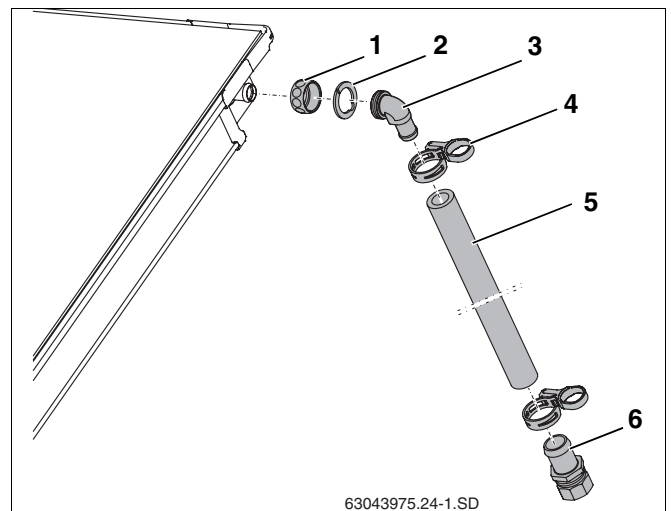

Fig. 35 Fitting flow line
- ▶ Push nut (Fig. 35, **Item 1**) over the collector connections.
- ▶ Place the clamping disc (Fig. 35, **Item 2**) behind the head on the collector connection and press together.
- ▶ Press angled nozzle with O-ring (Fig. 35, **Item 3**) onto connection, align and bolt together with nut.
- ▶ Push long solar hose (1000 mm, Fig. 35, **Pos. 5**) onto the angled nozzle and fix in place using hose clip (Fig. 35, **Item 4**).
- ▶ Insert hose nozzle with compression fitting (Fig. 35, **Item 6**) into the solar hose as far as it will go, and fix in place with hose clip.
- ▶ Connect header pipe to the R $\frac{3}{4}$ hose nozzle with compression fitting (22 mm) (Fig. 35, **Item 6**).